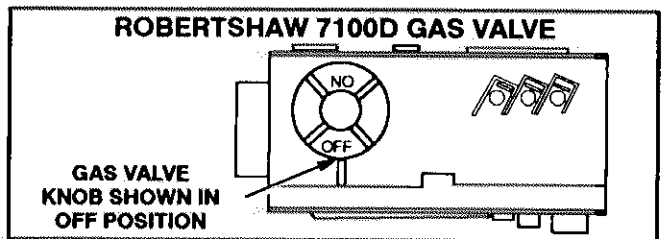

FIGURE 3
### Gas Valve Operation (Figures 3 – 5)
- 6- On Robertshaw 7100D and Honeywell VR8204 gas valves, turn knob on gas valve clockwise to **OFF**. Units with Robertshaw 7200 gas valve, depress lever and move to **OFF** position. Do not force. See figures 3 through 5.